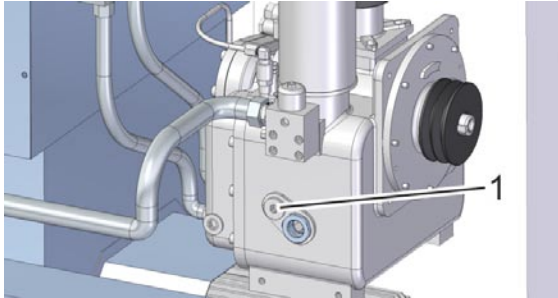

Fig. 29: Filler plug
4. Unfasten the filler plug (Fig. 29/1), remove it and make sure that the gasket is not misplaced.